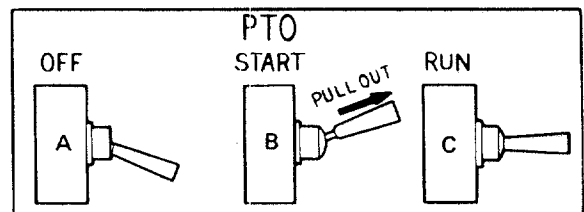

Figure 20
2. Flip the toggle switch to the "RUN" (C) position. (See Figure 20.)
5. PTO switch must be in the "OFF" (A) position when shifting the tractor into reverse or the PTO will shut off automatically. To reengage the PTO, shift unit into neutral. Move PTO switch to "OFF" (A) position. Then pull knob out and lift up to "START" (B) position and release.